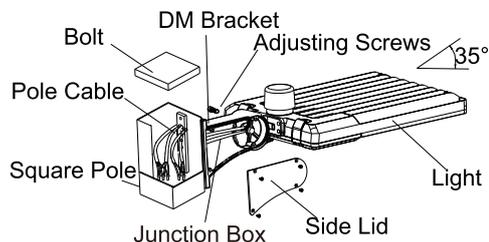

Figure 13
Step 1: Fix DM bracket to square pole with bolt, Put the connected wire into Pole.(Figure 13).
Notice: Adjustable angle is 0-35°(Figure 13).